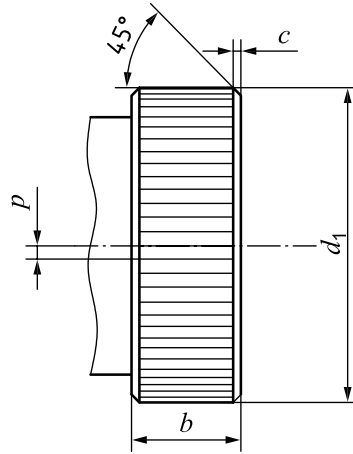

Figure 1 — Knurling type A
- a straight knurling type A (see Figure 1);